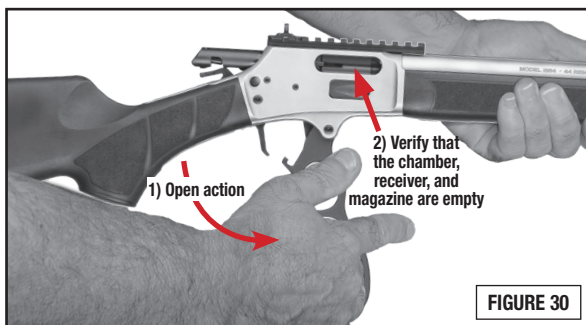

FIGURE 30
- Point the muzzle of the rifle in a safe direction, swing the operating lever fully down and forward and confirm that no cartridges have been loaded (FIGURE 30).